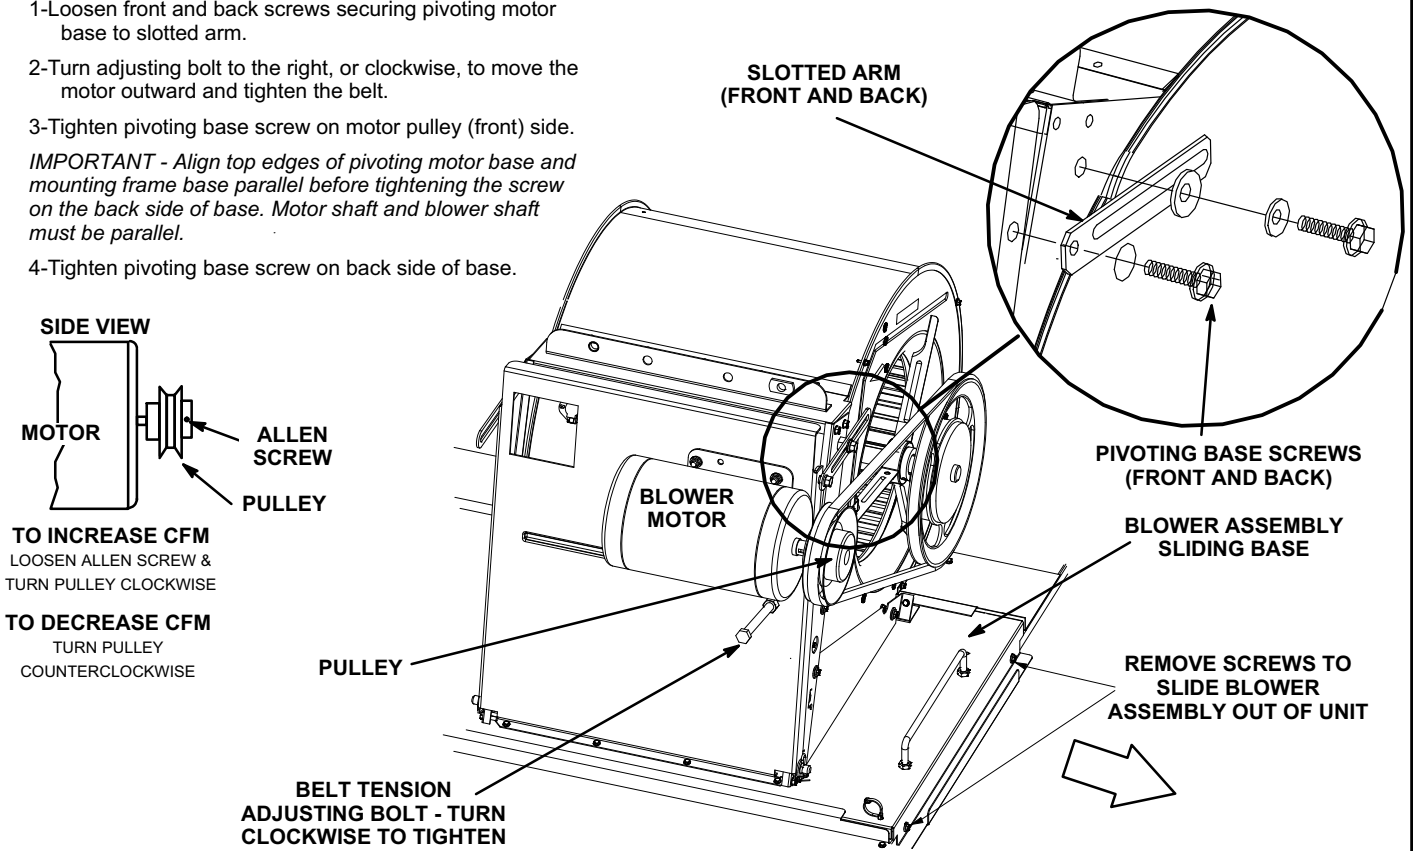

FIGURE 22
- 2- Remove screws on either side of blower assembly sliding base. See figure 22 or 23.